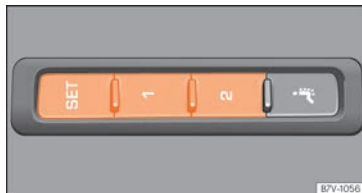

Fig. 136 Memory buttons on the outside of the driver seat
» **Fig. 136.**
- Press and hold the **SET** button  **Fig. 136.**